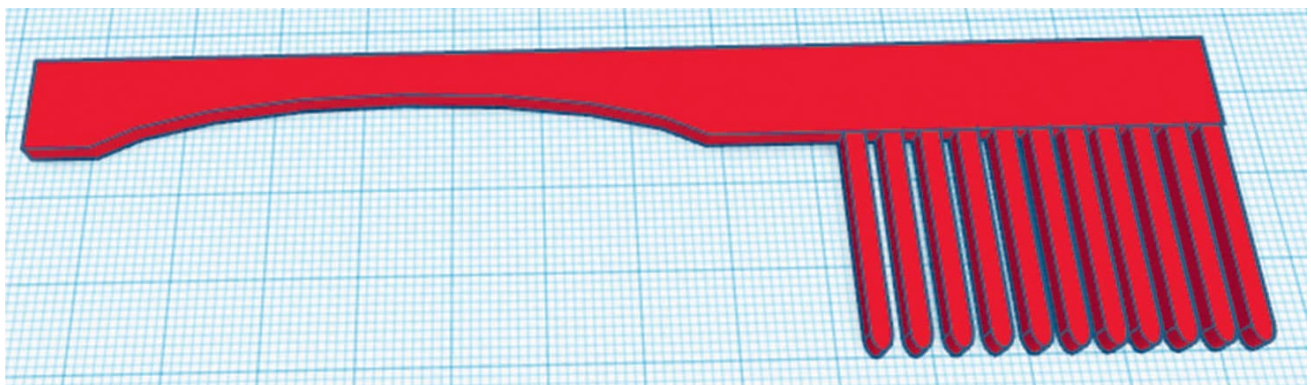

FIG. 4: The completed comb design.
4. Fig. 4 shows the finished comb design. You can cut some shapes into the handle, either to decorate it or for a utilitarian purpose.